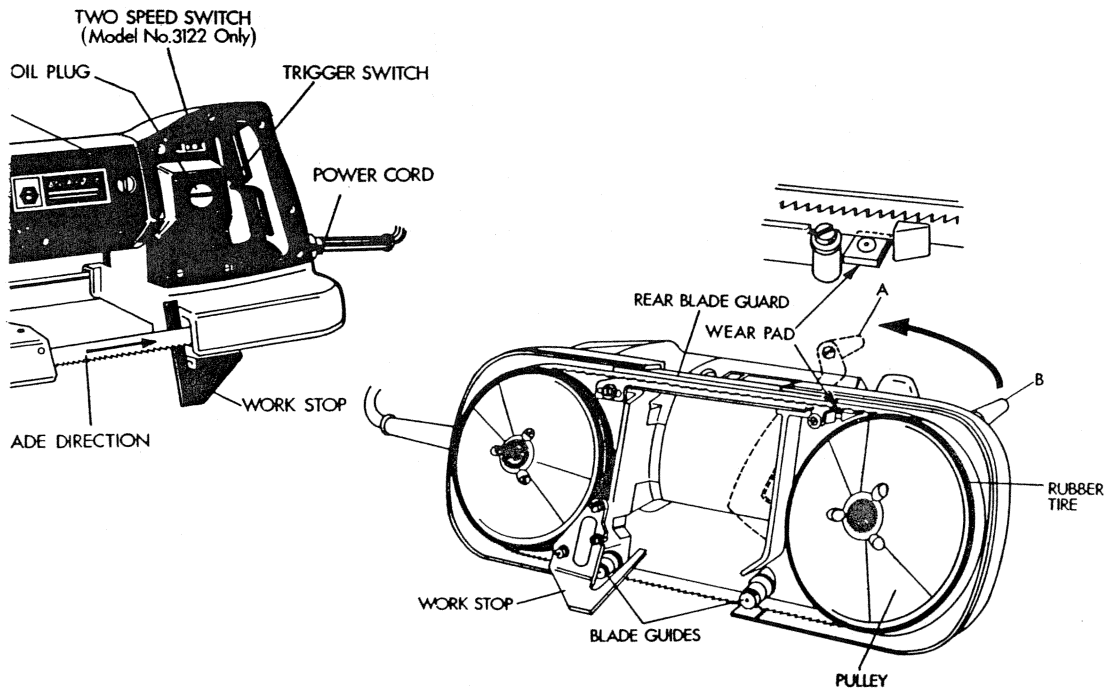

FIGURE 2
2. Turn the Saw upside down with power cord to left (Figure 2).
3. Pull the Tension Lever toward the center of the tool into position "A" (Figure 2). Remove the blade from the pulleys first, and from the blade guides last.
7. Push tension lever into locked position, "B" (Figure 2), making sure that it is completely forward.
8. Start and stop the saw to be sure that blade is seated properly and is riding on top of wear pad as shown in Figure 2.